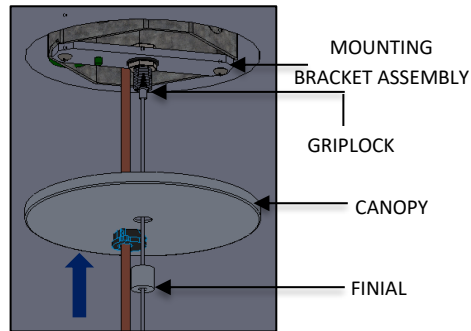

FIG. 28- FINIAL INSTALLATION
14. Raise CANOPY and secure to ceiling by threading the FINIAL to the GRIPLOCK until fully seated as shown in FIG. 28.